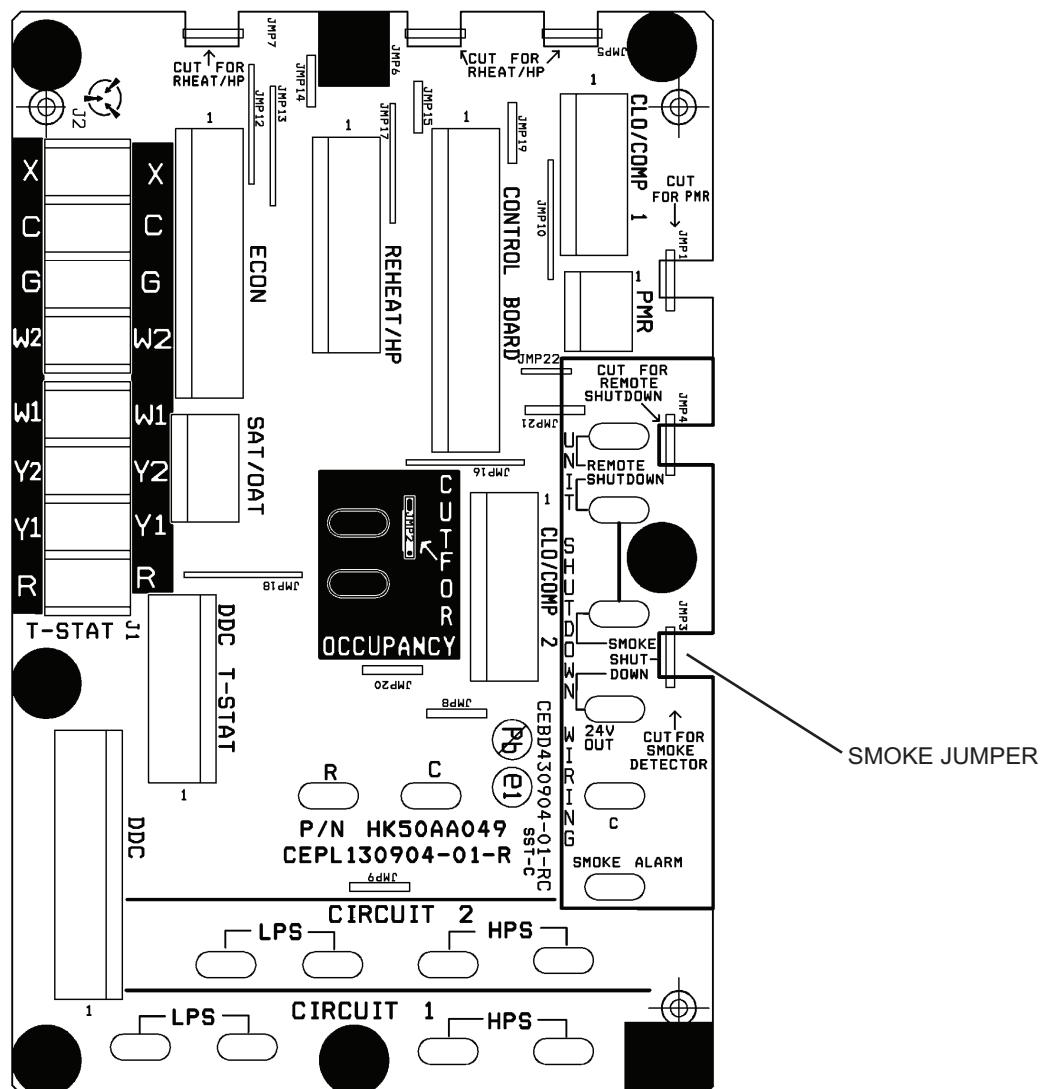

Fig. 8 — Central Terminal Board (Not Used for 48/50LC Models)
8. Cut smoke detector jumper on control terminal board as shown in Fig. 8 and 9.